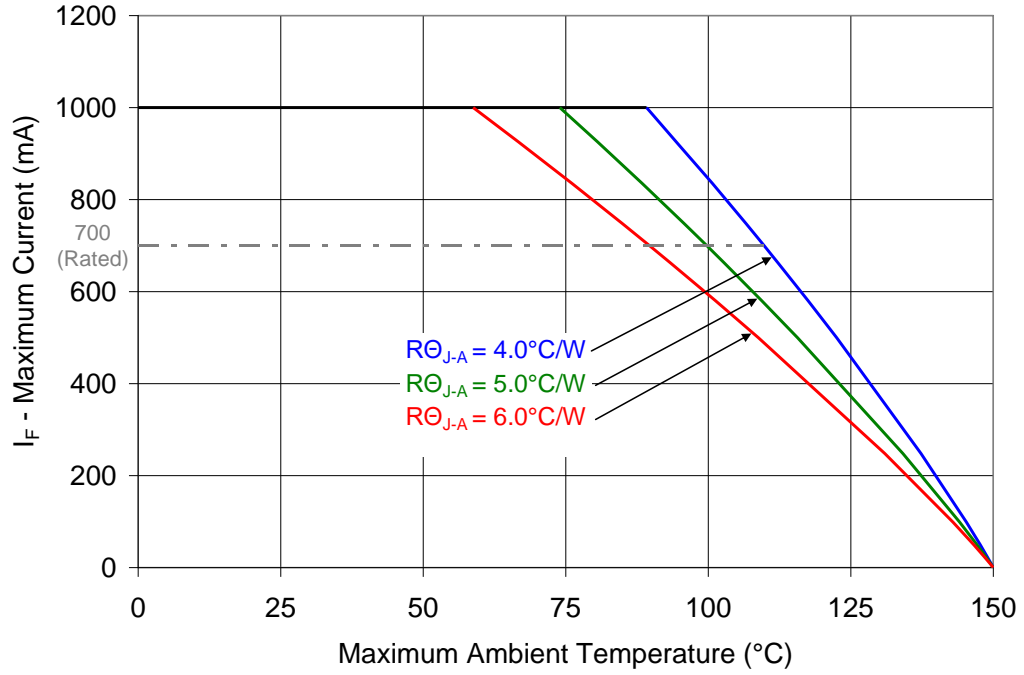

Figure 10: Maximum forward current vs. ambient temperature based on $T_{J(\text{MAX})} = 150^{\circ}\text{C}$.
- Maximum DC forward current (per die) is determined by the overall thermal resistance and ambient temperature. Follow the curves in Figure 10 for current derating.
Notes for Figure 10: